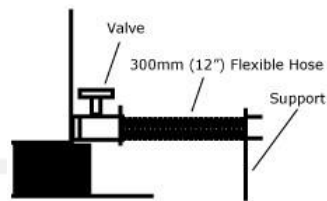

FIGURE 5
- When pipe is exposed over a long distance, insert a flexible hose between the fittings and pipe to absorb any movement (see figure 5).